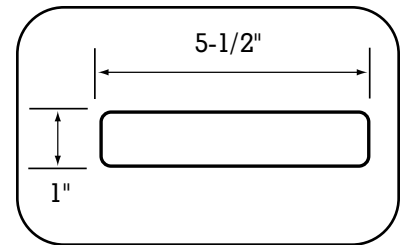

Fig. 13
- 5/4 Planks (12', 16', 20' lengths; approximately 2.6 lb. per ft.) (Fig. 13).